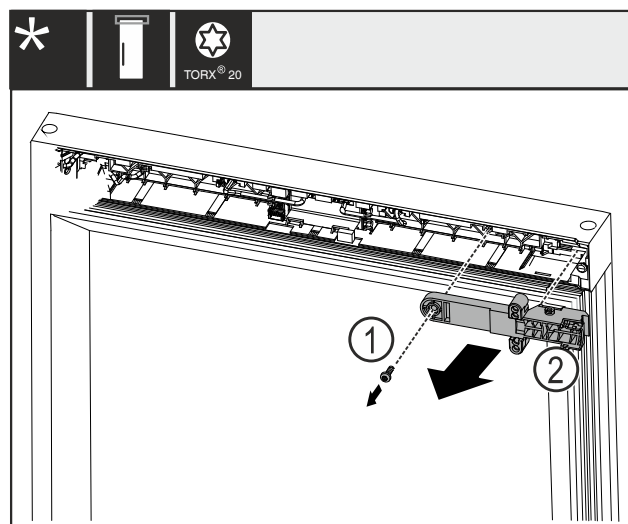

Fig. 22
- Remove the screw Fig. 22 (1).
- Remove the lock retainer Fig. 22 (2).